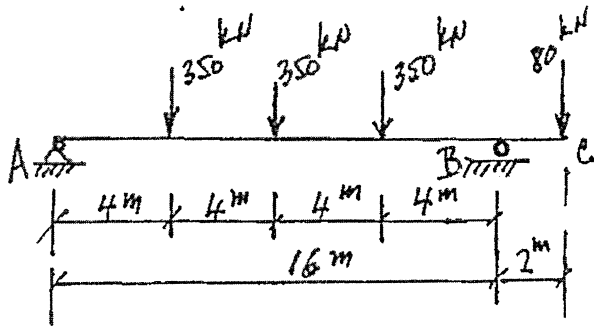

FIGURE 1
1. The prestressed concrete girder in Figure 1 is to be post-tensioned.